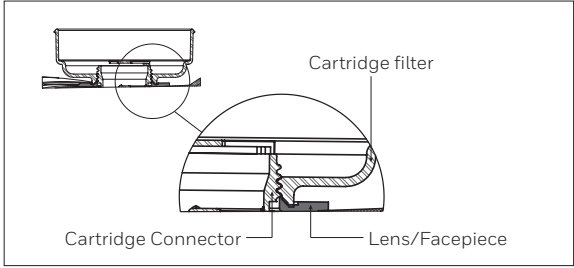

Figure 5
- c. Do not overtighten, as this may crack the cartridge connectors. (Figure 5).